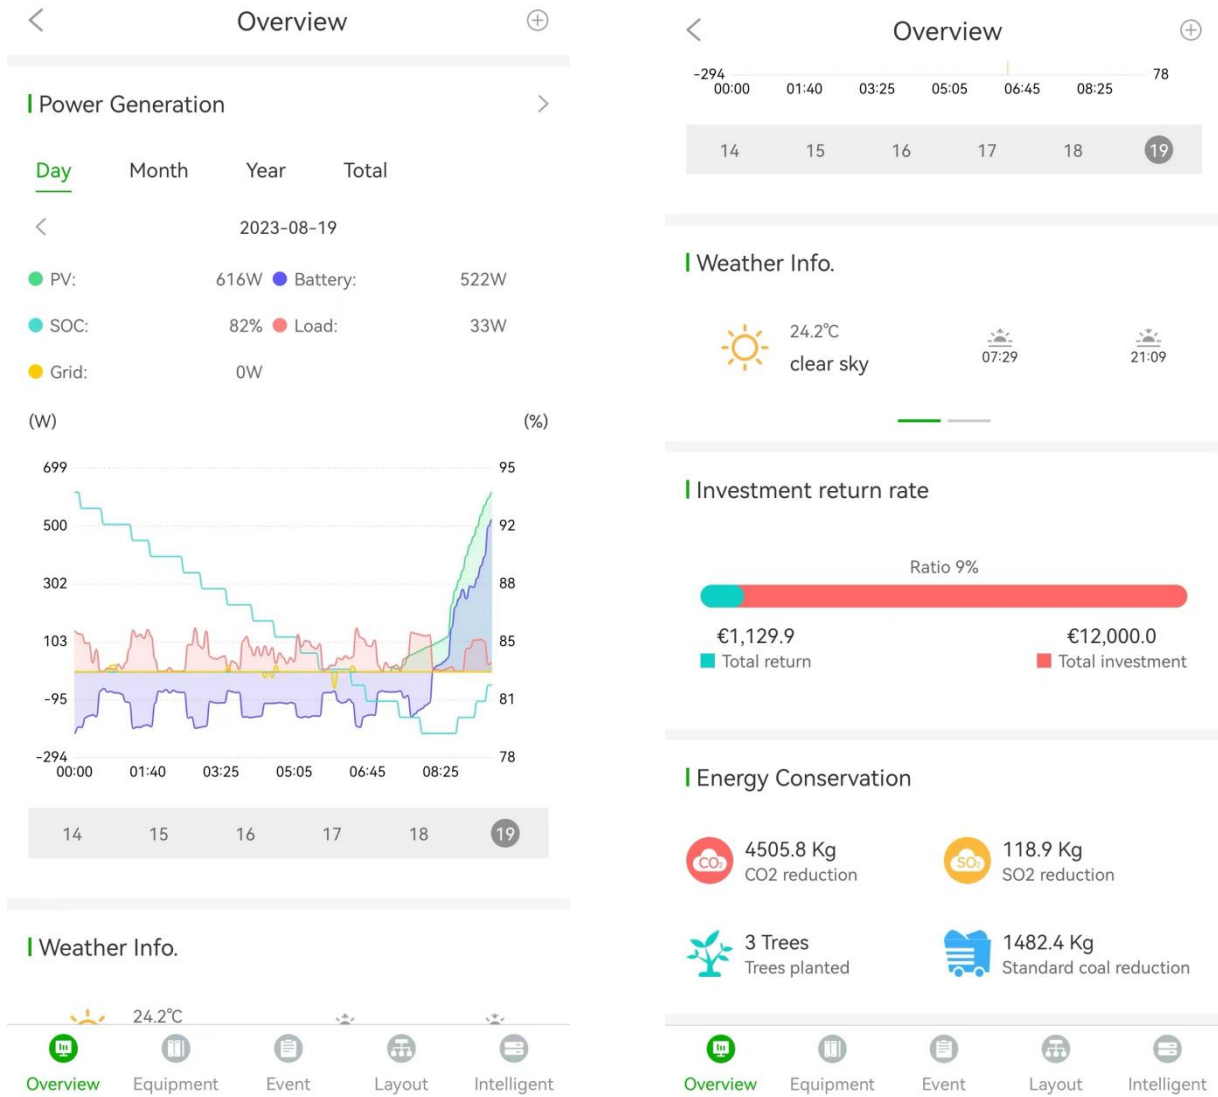

Figure 6-2 Plant overview
2. Figure 6-2 shows the details about the plant.